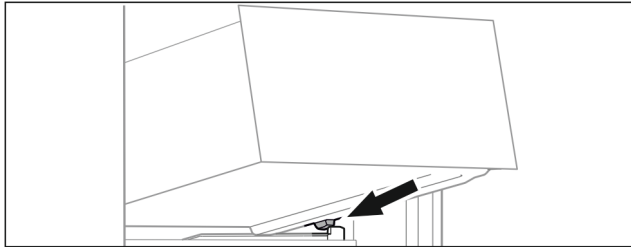

Fig. 70
- ▶ Place drawer at an angle behind the stoppers on the moulded rib. (see Fig. 70)